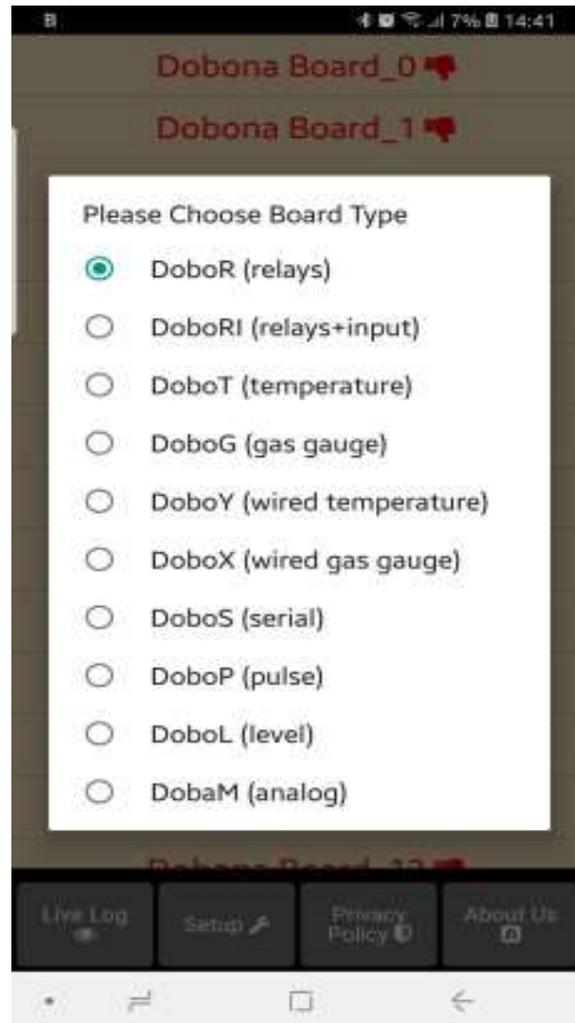

Fig 3.
6. In order to setup a board, the should press any of the red lines. Supposing he presses on the first line (Dobona board#0), after which he is presented with a popup screen to choose the board type (Fig.3). since we are interested in DobaM board only, the user should press the DobaM (analog).